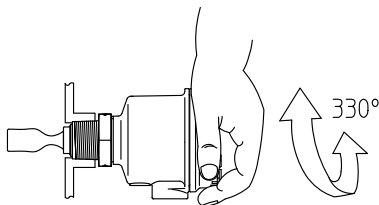

Fig. 5-17
- (8) Housing can be rotated for approximately 330°. Take measures to prevent water or moisture penetration. (Fig. 5-17, 5-18)